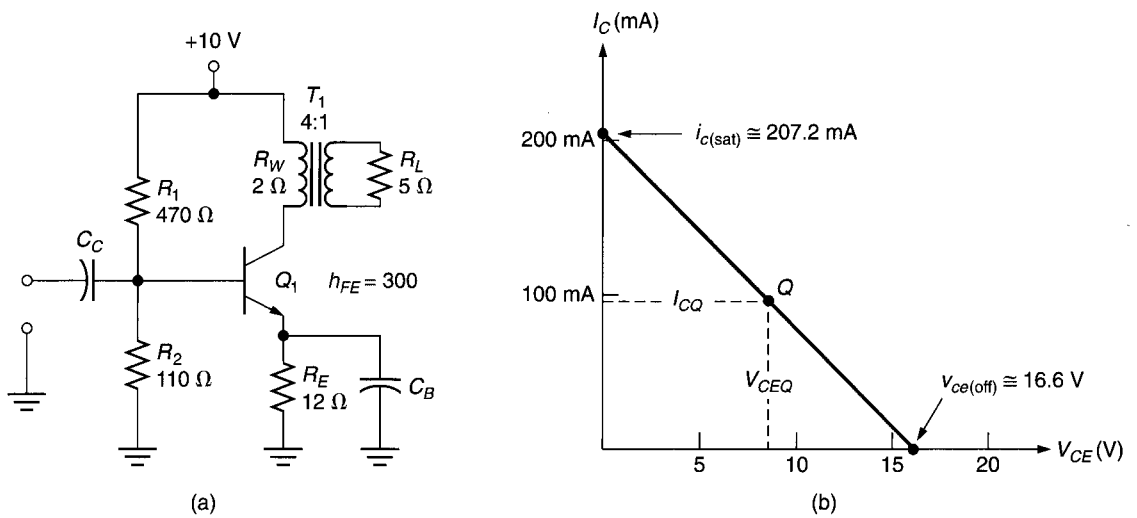

FIGURE 11.12 Transformer-coupled class A amplifier.
9. Using the circuit and graph in Figure 11.12, demonstrate that the dc load line for a transformer-coupled amplifier is nearly vertical. (*Hint: What is  $V_{CE(off)}$  for the amplifier?*)